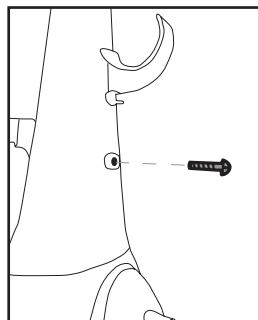

Fig.3/5
3. Place the upper handle on to the top of the cleaner (Fig.3/3).